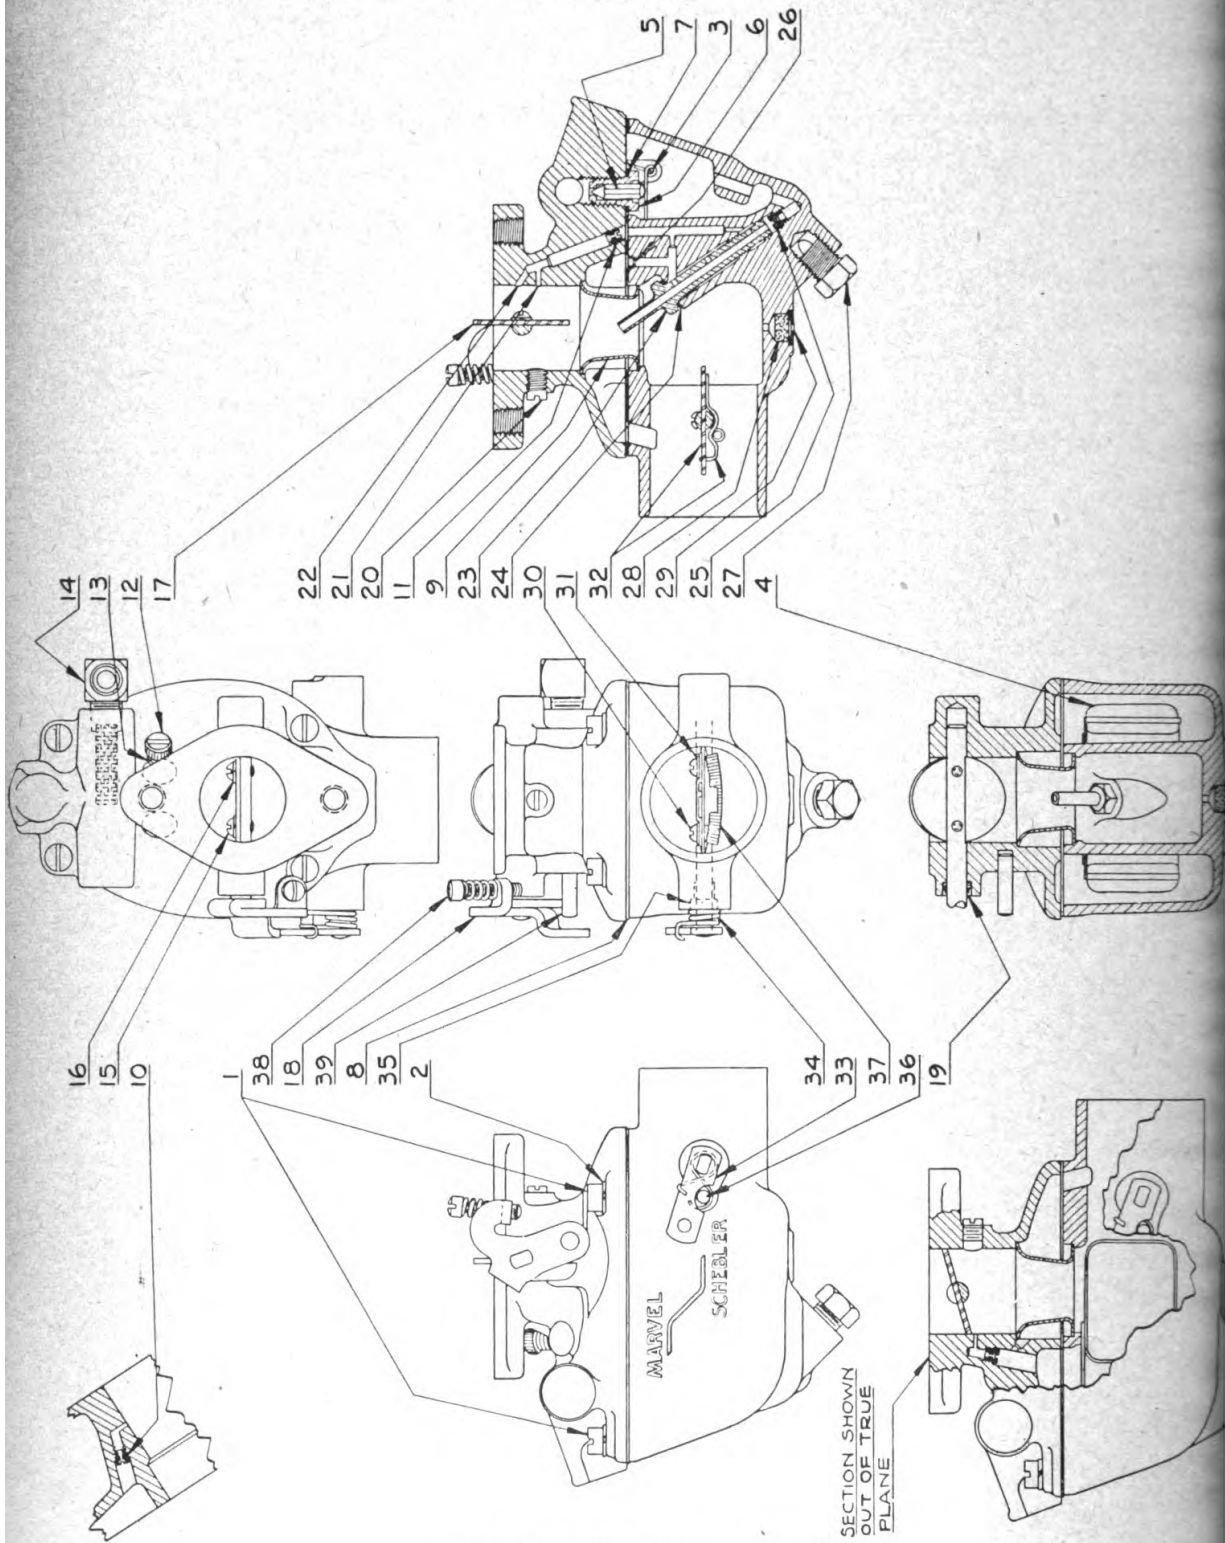
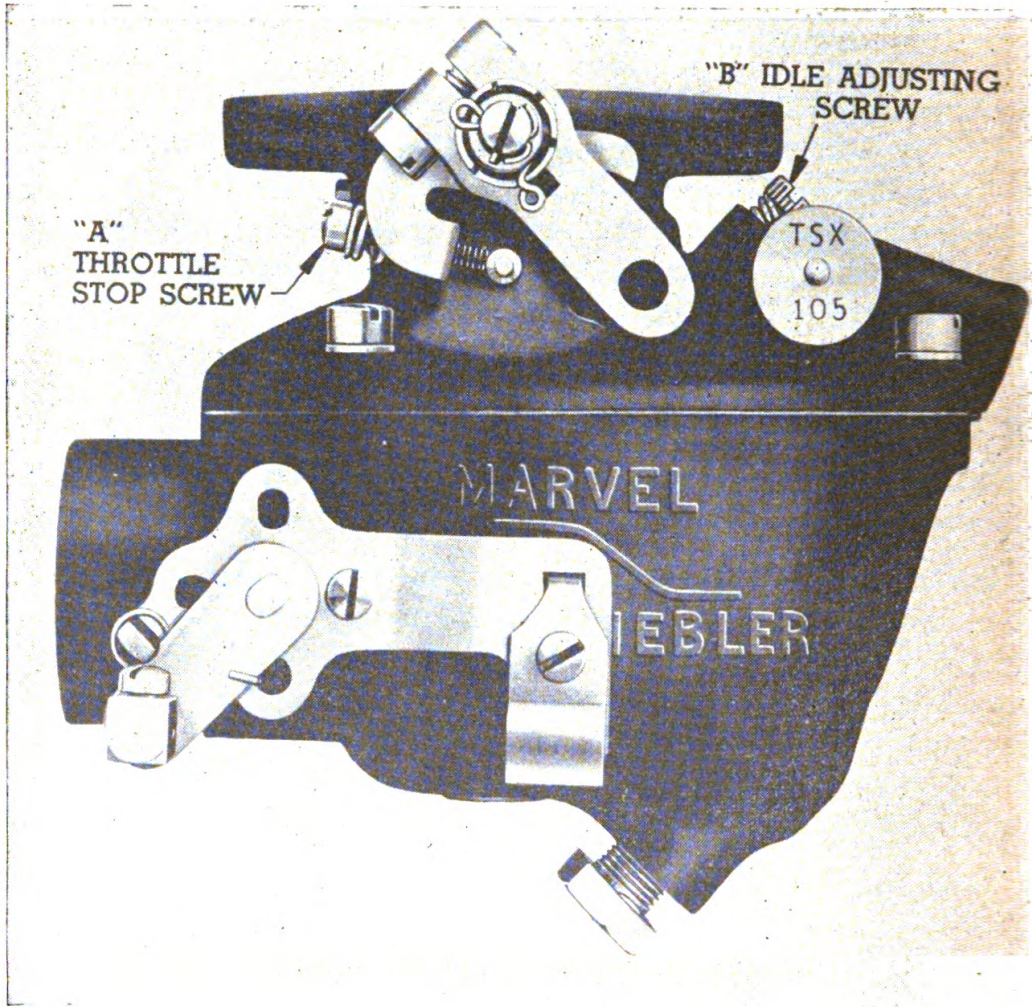

Figure 14. Carburetor assembly.
Figure 15. Carburetor adjustments.
#### 49. DISASSEMBLING CARBURETOR (fig. 14).
**e. Assembly of Main Body and Bowl to Throttle Body and Bowl Cover.** (1) With throttle body and bowl cover in the inverted position, lower main body and bowl over floats. Be careful that venturi [9] guides the bowl into position. With the two main castings held firmly together, turn carburetor to upright position and install carburetor to throttle body screws [4] and lockwashers [43].
(2) Assemble gas inlet elbow and screen assembly [14] with open end of connection facing upward as shown in figure 14.
(3) Install carburetor on tractor, using new flange gasket, and make final idle adjusting needle adjustment as directed under adjustment instructions.
**f. Preliminary Adjustments (fig. 15).** Set throttle stop screw "A" so the throttle disk is open slightly. Make certain that gasoline supply to carburetor is open. Set throttle control lever to one-third open position. Close choker fly by choke control button on instrument board. Start engine and partially release choke. After the engine has been run sufficiently to bring it up to operating temperature throughout, see that choke is returned to wide-open position.